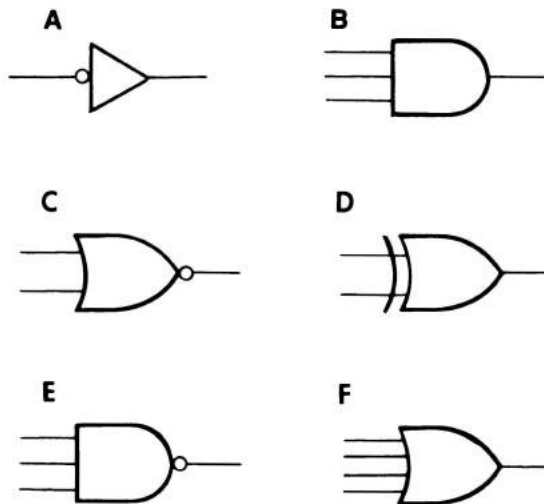

Figure 5-13
7. Identify the logic symbols shown in Figure 5-13.
7. The following logic symbols are shown in Figure 5-13: